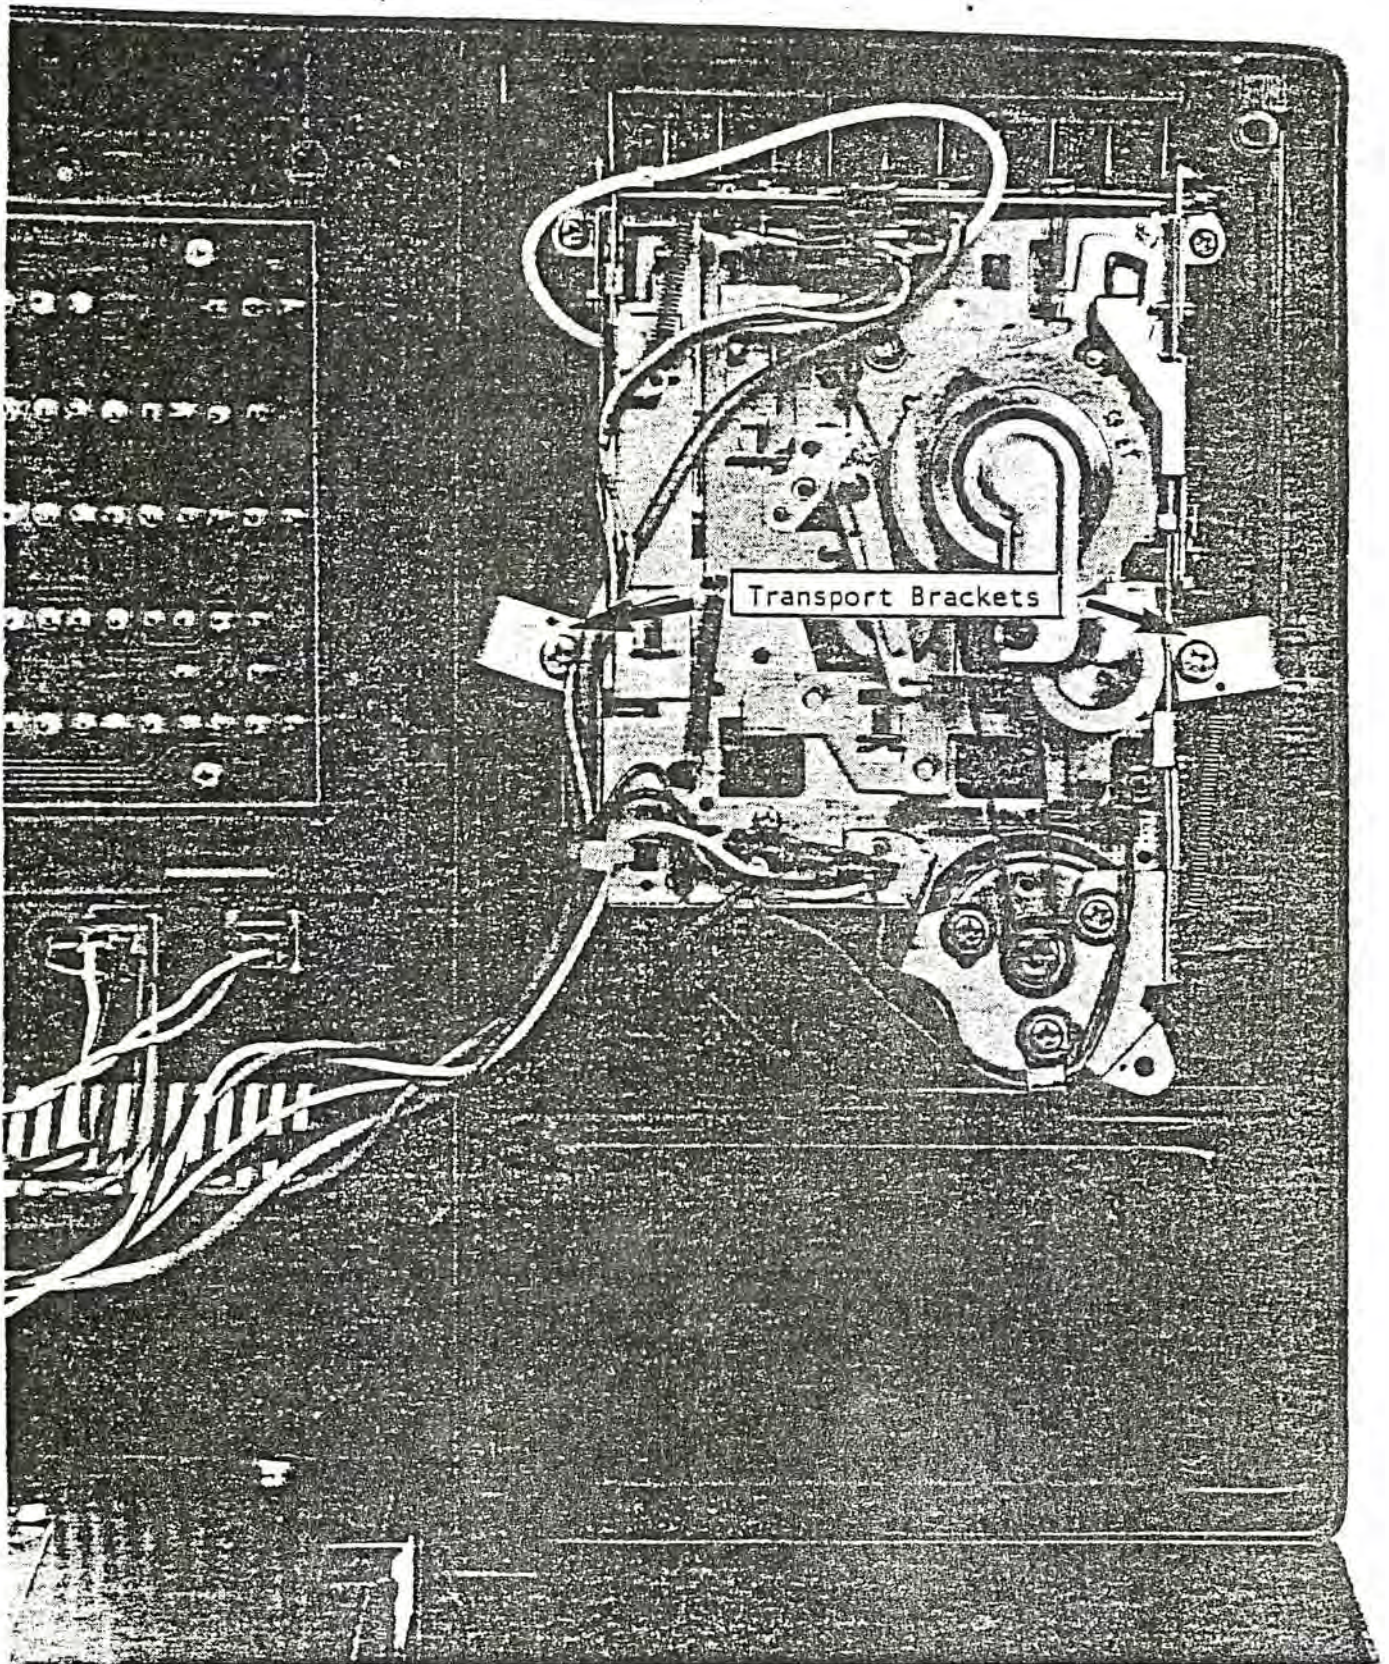
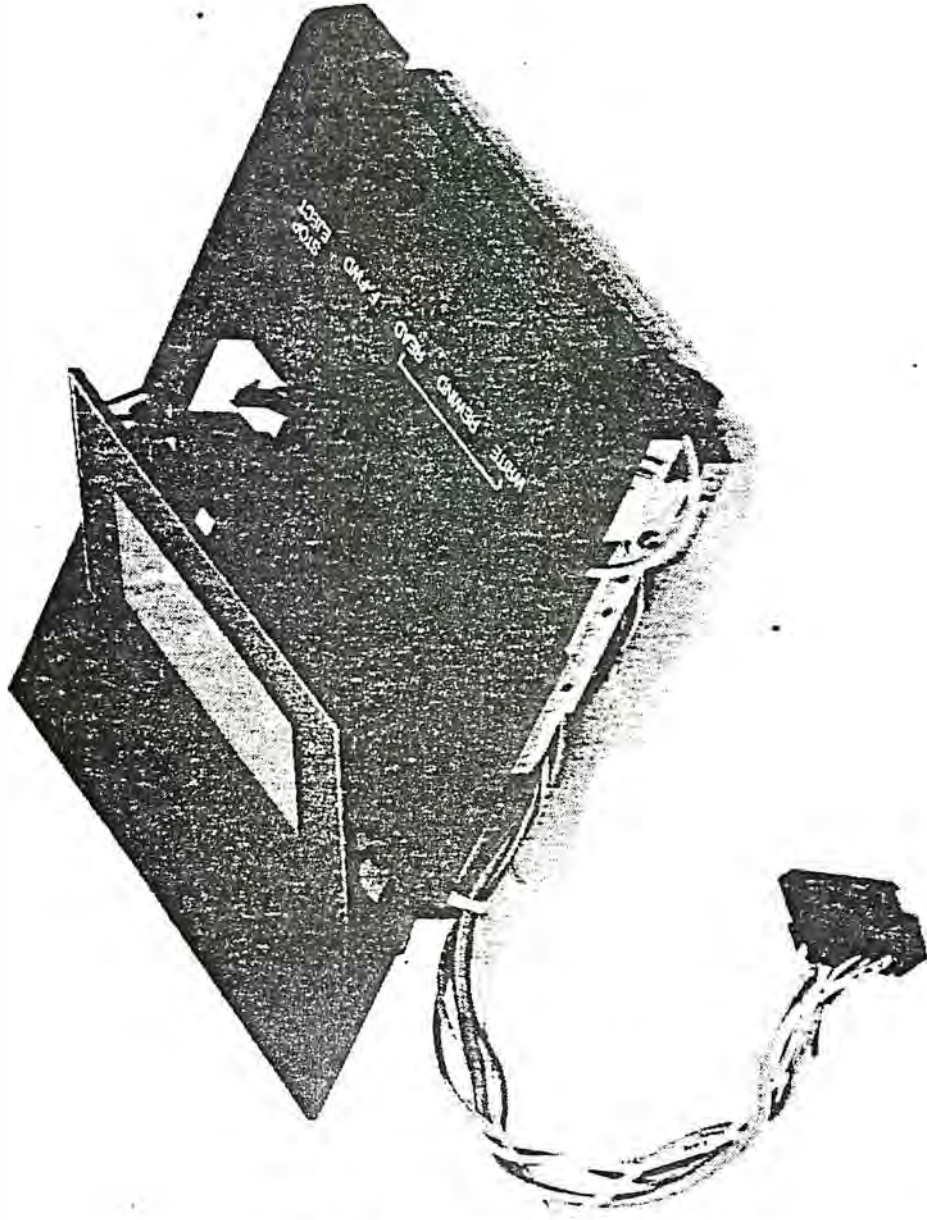

FIGURE 7--Cassette Transport In Housing
FIGURE 8--Cassette Transport Sub-assembly
7. Cassette sub-assembly (Figure 8)
2. Remove the transport brackets shown in Figure 7. Lift the cassette transport out of the transport housing. (See Figure 8.)
4. Cassette door can be inserted back in track by loosening the transport brackets (Figure 7) until transport housing has enough slack from upper assembly to allow pivot arms of cassette door to slide into track notch. It is usually easier to do this with door spring removed.